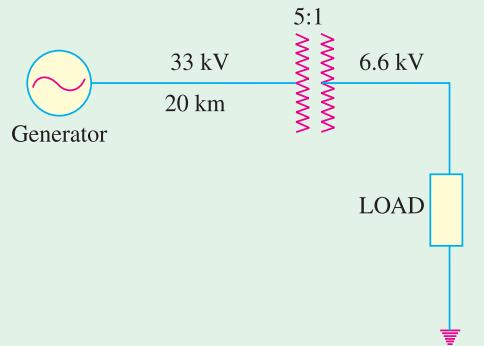

Fig. 41.26
**Solution.** One phase of the system is shown in Fig. 41.26. Impedance per phase of high voltage line =  $(8 + j 10)$